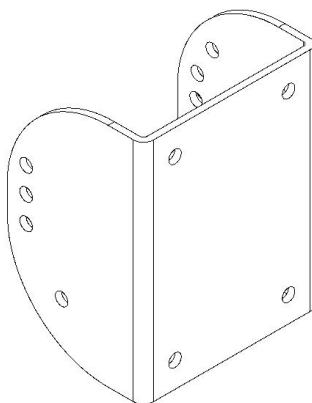

Figure 2
The loudspeaker bracket must be removed from the main bracket before mounting the pole bracket to the pole. The loudspeaker bracket is shown separately in Figure 2 below.
Mount the pole mount section (see Figure 4a below) of the bracket to the pole at the desired height on the pole. The loudspeaker bracket shown in Figure 2 should be removed prior to hanging the pole mount section. The bracket is mounted to the pole using BAND-IT stainless steel bands. **DO NOT SUSTITUTE** bands of other material or other widths! **There are SIX locations on the pole bracket for bands. ALL SIX LOCATIONS MUST BE USED.**
1. Next, the loudspeaker bracket (Figure 2) should be mounted to the loudspeaker (ONE SYSTEMS 112/HTH, 212/HC, 312/HC, 118/HSB or CFA-2/HTH only using the supplied M10 stainless steel bolts and washers). DO NOT SUBSTITUTE ANY PARTS. **NOTE: See Appendix 2 at the end of this document if the 118HSB is being used!**